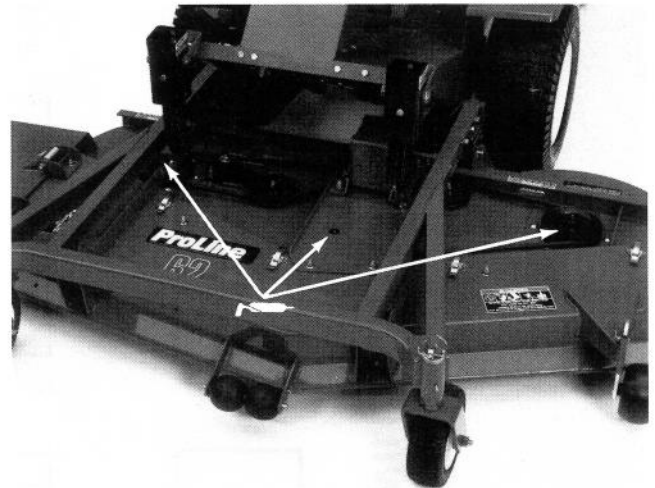

Figure 18
1. The cutting unit lubrication points are: castor spindle bushings (Fig. 17); castor wheel bearings (Fig. 17); and blade spindle bearings (Fig. 18).